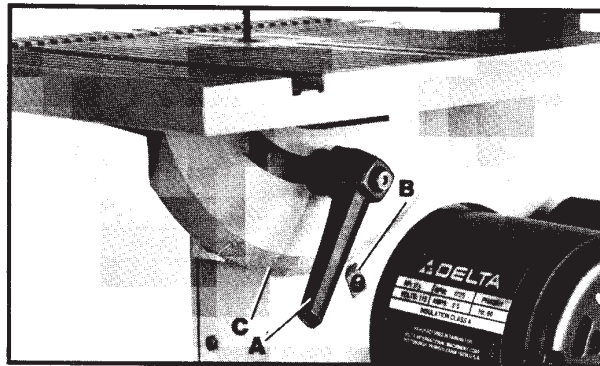

Fig. 26
To tilt the table for angle sawing, loosen table tilting lock handle (A) Fig. 26, and tilt the table until the pointer (B) indicates the desired angle on the scale (C). Then tighten lock handle (A). The table will tilt up to 45 degrees to the front. A positive stop is provided to ensure that the table will always be returned 90 degrees to the blade. See section titled **LEVELING THE TABLE**.